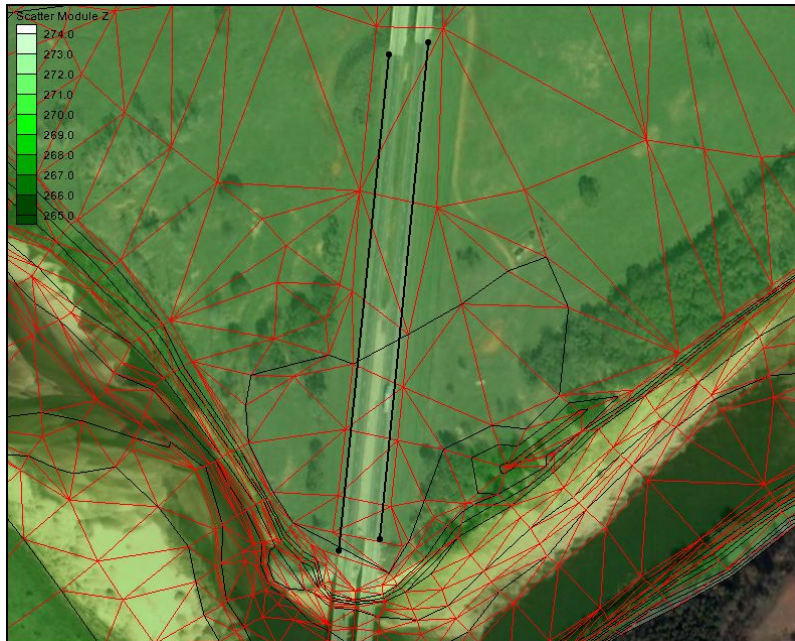

Figure 13 Arcs along embankment edges.
1. Zoom in to the bottom of the TIN as seen in Figure 13.
3. Create two arcs as shown in Figure 13. No intermediate points are required at this time. Select the two arcs and change their elevations to 273 ft using the Z edit field.